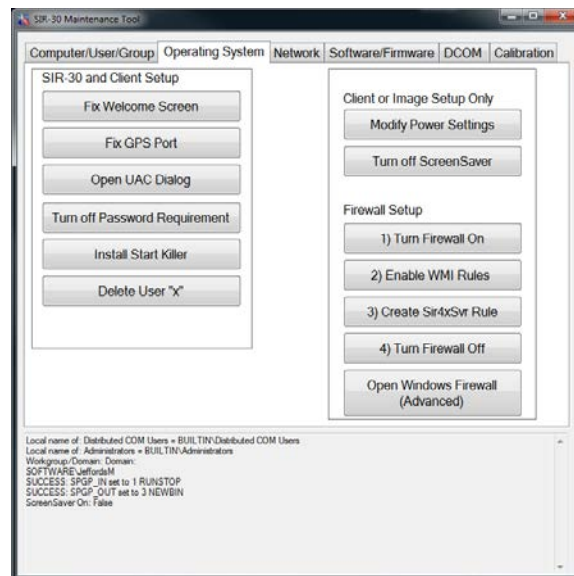

Figure 10: Modify Operating System.
- 3** Select the Operating System tab from the Tool menu and then select the following functions. (See Figure 10 above)